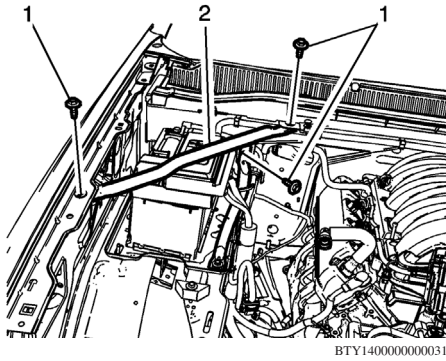

Fig. 2 Support cross brace removal
2. Remove support cross brace fasteners (1) and remove support cross brace (2) from above battery, **Fig. 2**.
5. Install support cross brace (2) and torque fasteners (1) to 80 inch lbs., **Fig. 2**.